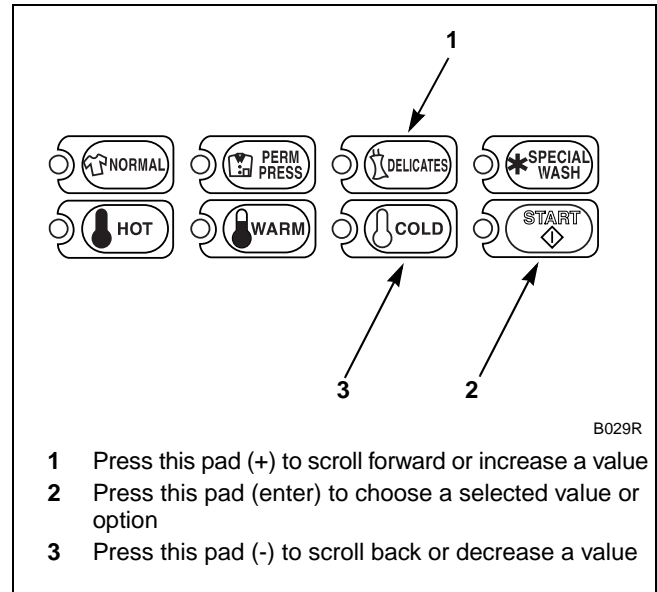

Figure 68
5. Press the DELICATES (+) or the COLD (-) keypad to increase or decrease the current number of minutes displayed in the VFD to the desired number of minutes. Refer to *Figure 68*.
**NOTE: The Permanent Press Rinse Extra Fill/Tumble Time can be set from zero (0) to 15 minutes.**